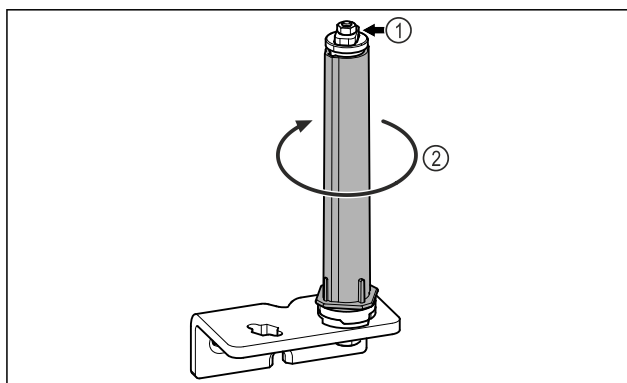

Fig. 14
- Do not disassemble the door locking system Fig. 14 (1).
- Turn the locking system Fig. 14 (2) until it clicks.